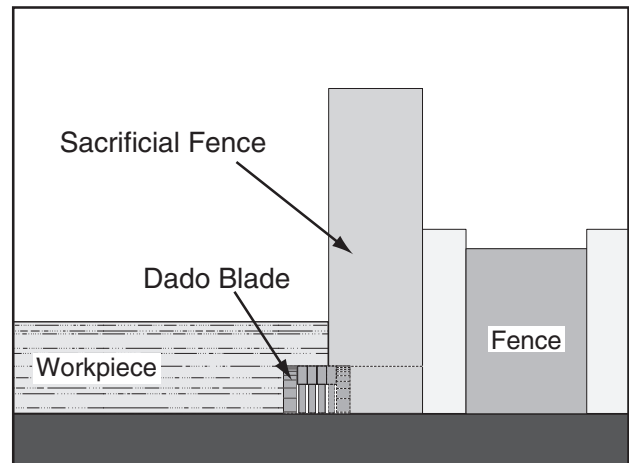

Figure 84. Rabbet cutting.
3. Adjust the fence and align the workpiece to perform the cutting operation, as shown in **Figure 84**.